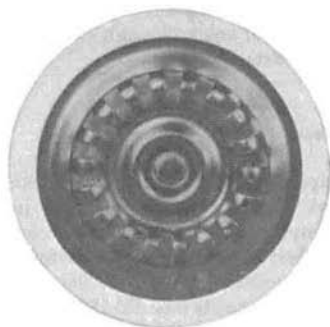
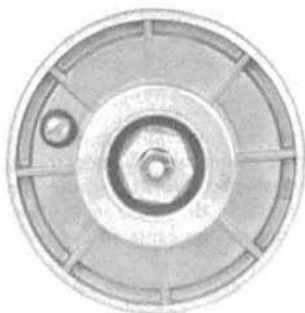

Fig. 35—T2 and T3 Transmitter Units, Front View
Fig. 36—T3 Transmitter Unit, Rear View
6.54 The T2 and T3 transmitter units (Fig. 35) have a protective grid to prevent fraudulent operation of the coin collector. The T3 (Fig. 36)